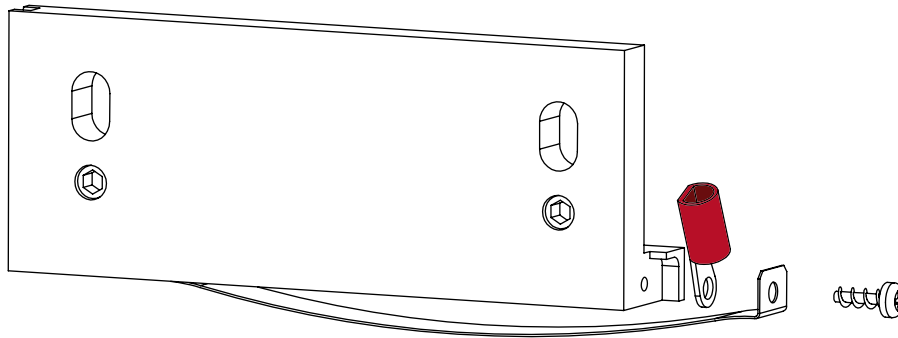

figure 4
- 4) On the plastic piece that will be attached, remove the self tapping screw (T10) which holds the sheet metal plate on the side without the thin plastic frame and use it to attach the ring cable shoe (incl. cable) and the sheet metal plate that was released in *step 1*, as seen in fig. 4.